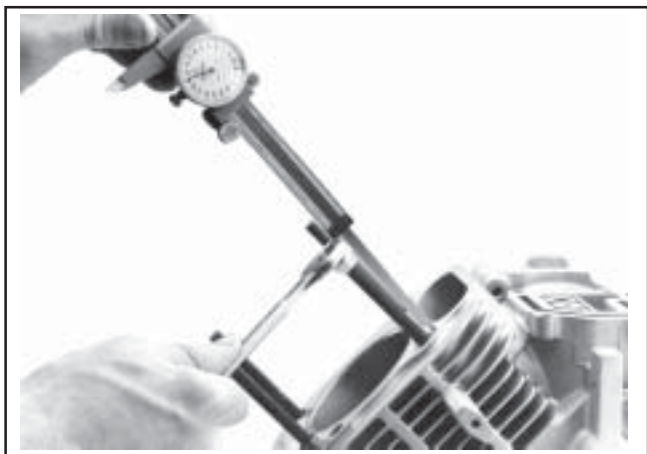

Figure 11-39. Installing New Mounting Studs to Specified Height.
- b. Thread the opposite end of the stud, with the preapplied locking compound, into the crankcase, until the specified height from the crankcase surface is achieved. See Figure 11-39. When threading in the studs, use a steady tightening motion without interruption until the proper height is obtained. Otherwise the frictional heat from the engaging threads may cause the locking compound to set up prematurely.